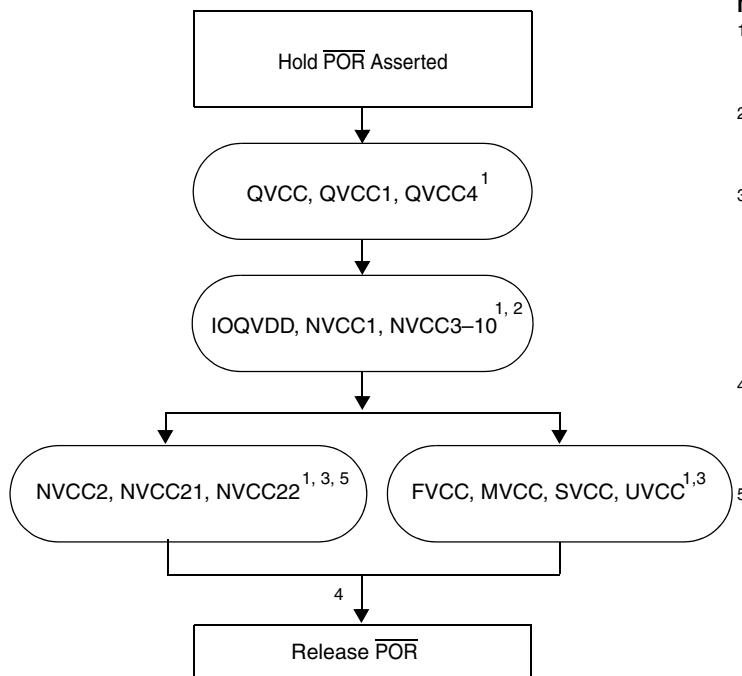
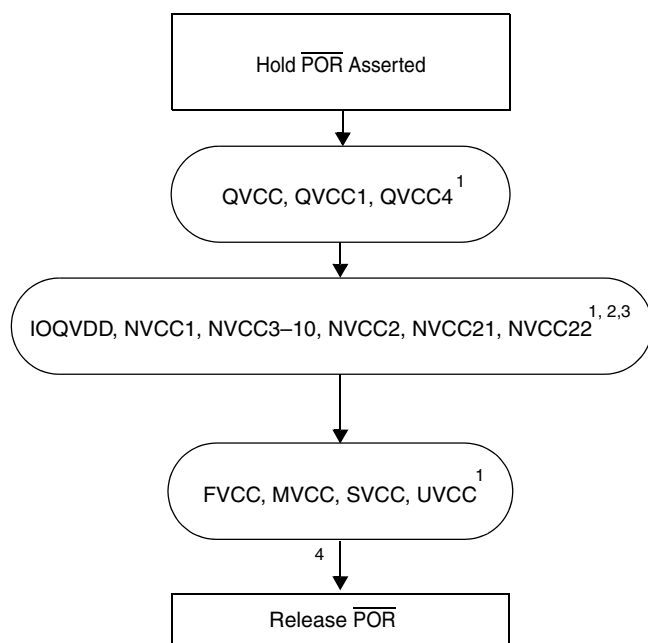

Figure 3. Option 1 Power-Up Sequence (Silicon Revision 2.0)
Figure 4. Option 2 Power-Up Sequence (Silicon Revision 2.0)
The Power On Reset ($\overline{\text{POR}}$) pin must be kept asserted (low) throughout the power up sequence. Power up logic must guarantee that all power sources reach their target values prior to the release (de-assertion) of $\overline{\text{POR}}$. Figure 2 shows the power-up sequence for silicon Revisions 1.2 and previous. Figure 3 and Figure 4 show the power-up sequence for silicon Revision 2.0.
- ³ Raising NVCC2, NVCC21, and NVCC22 at the same time as IOQVDD does not produce the slight increase in current drain on IOQVDD (as described in Figure 3, Note 5).